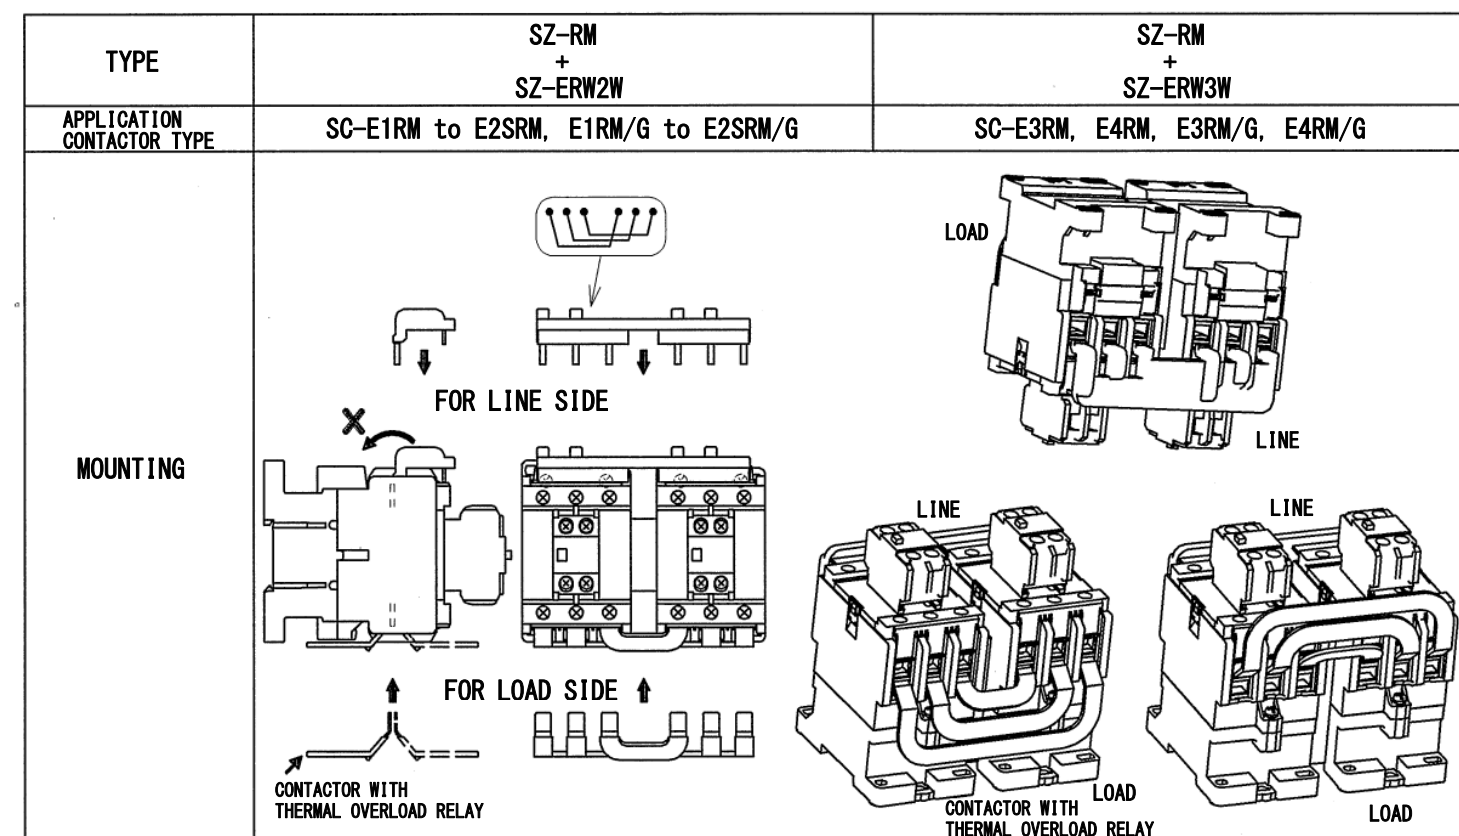

Fig. 3
- (1) Perform wiring to coil terminals before attaching power connection kit
- (2) Connect the kit to main circuit terminals. The kits are available for only the line or load sides. Be sure to wire carefully.
- (3) In case of line side part of “SZ-ERW2W or SZ-ERW3W”, insert and connect this part to **front** side terminals. (Fig.3)
- (5) In case of using load side part of “SZ-ERW2W or SZ-ERW3W” with thermal overload, insert and connect to **back** side terminals after turning the bent side to the direction of **front** side of the contactor. In case of without thermal overload relay, it is also available turning the bent side to the direction of **back** side of the contactor and connecting to the **front** side of the contactor. (Fig.3)